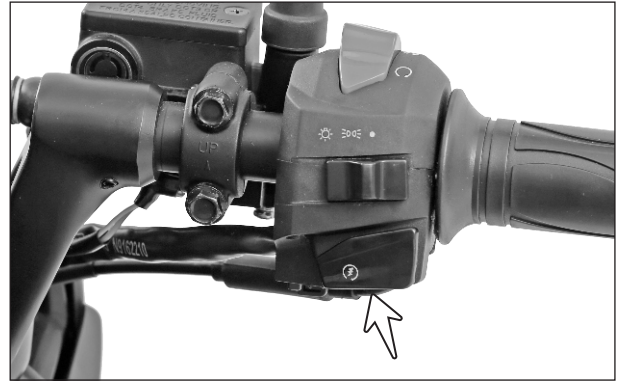

Fig. 5.41
- Electric starter switch is located at the bottom side of switch assembly RH on the right hand side of the handle bar. (Fig. 5.41)